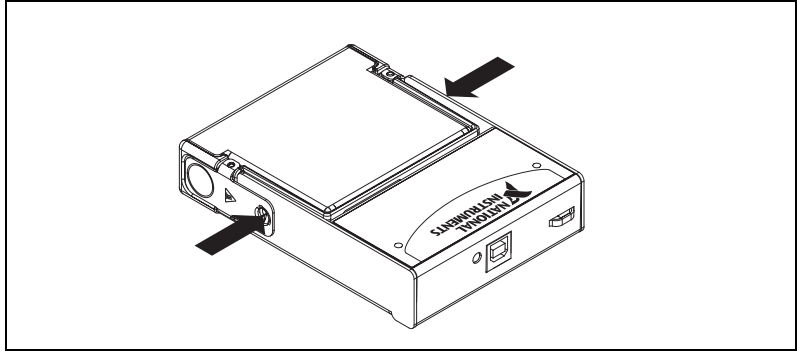

Figure 5. Locking Module into Place
5. Press firmly on the connector side of the NI USB-9219 module until the latches lock the module into place, as shown in Figure 5.